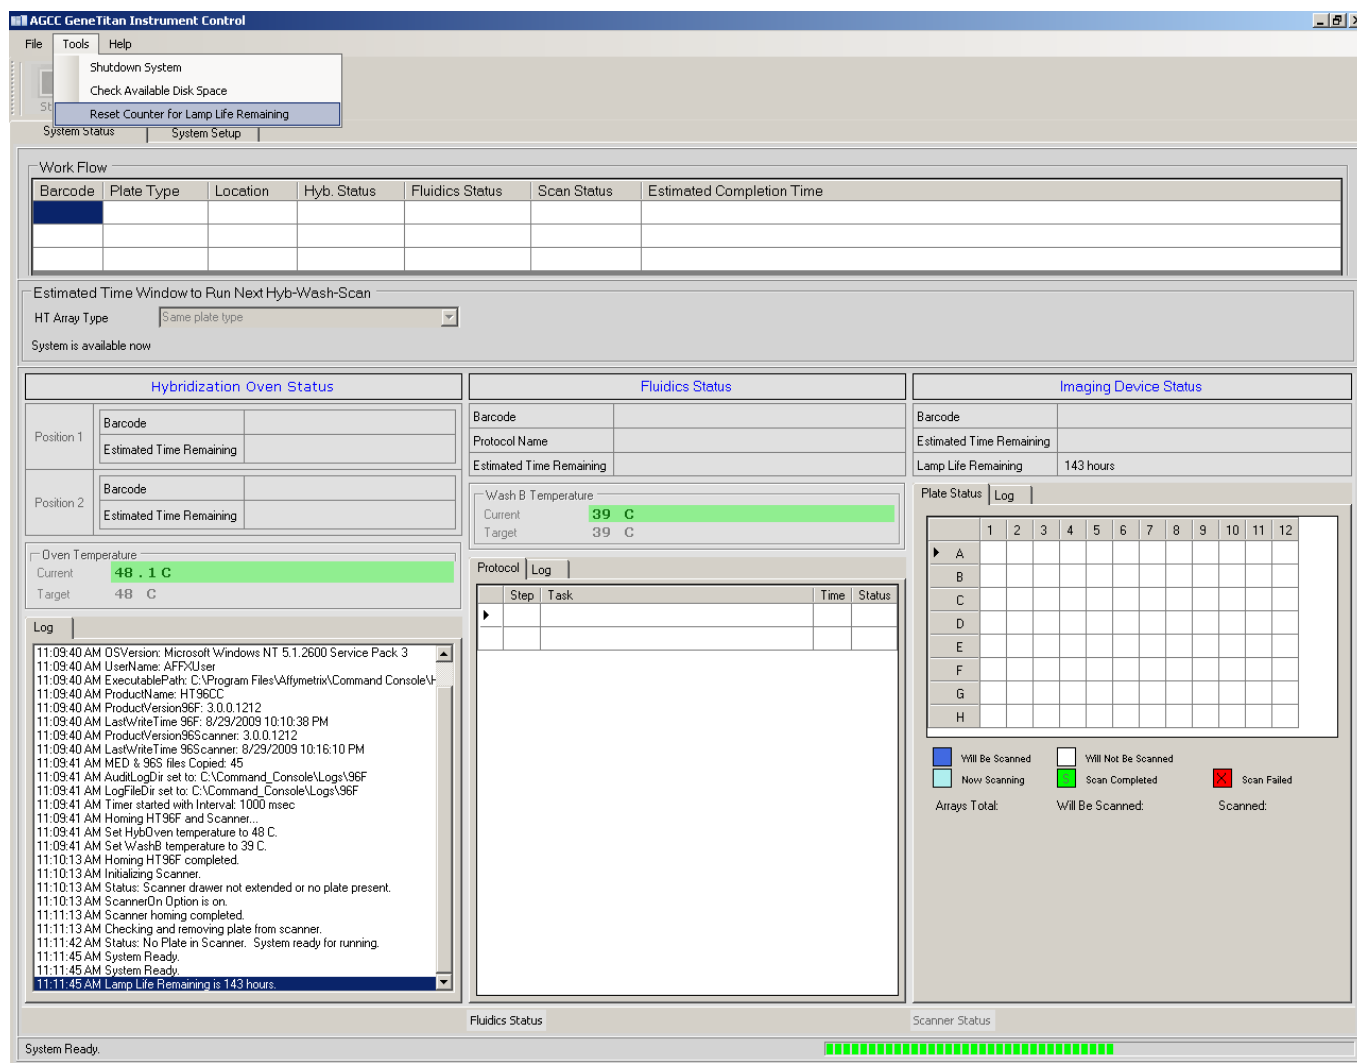

Figure 107 Inserting the Lamp
1. On the software application click **Tools** → **Reset Counter for Life Remaining** (Figure 107).